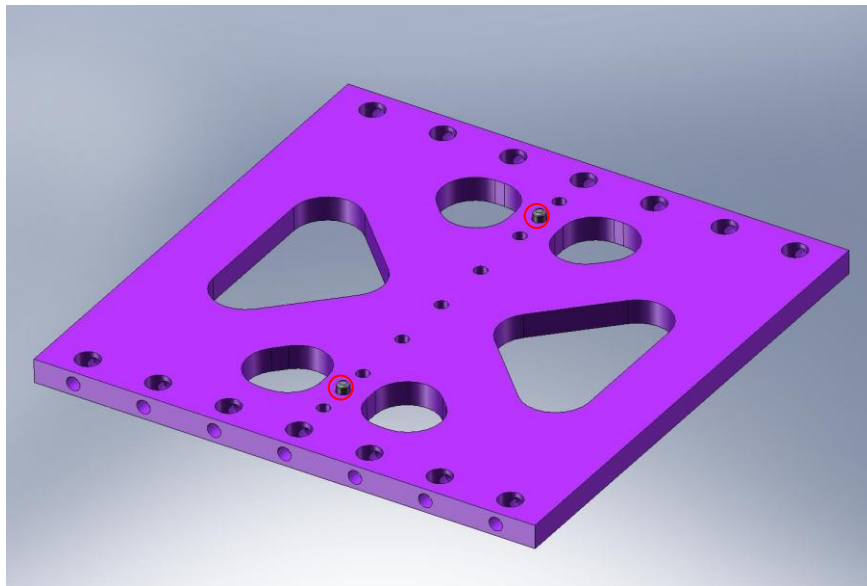

Figure 2.8. Dowel pins pressed into side of Tangential Rib (D071053).
- Press (2) 3/8"x.75" dowel pins (McMaster-Carr #90145A622) into one side of each of (3) **Rib, Tan, GS-13 Cen** plates (D071053), as shown in Figure 2.8. The pins should stand .25" proud of the plate surface.